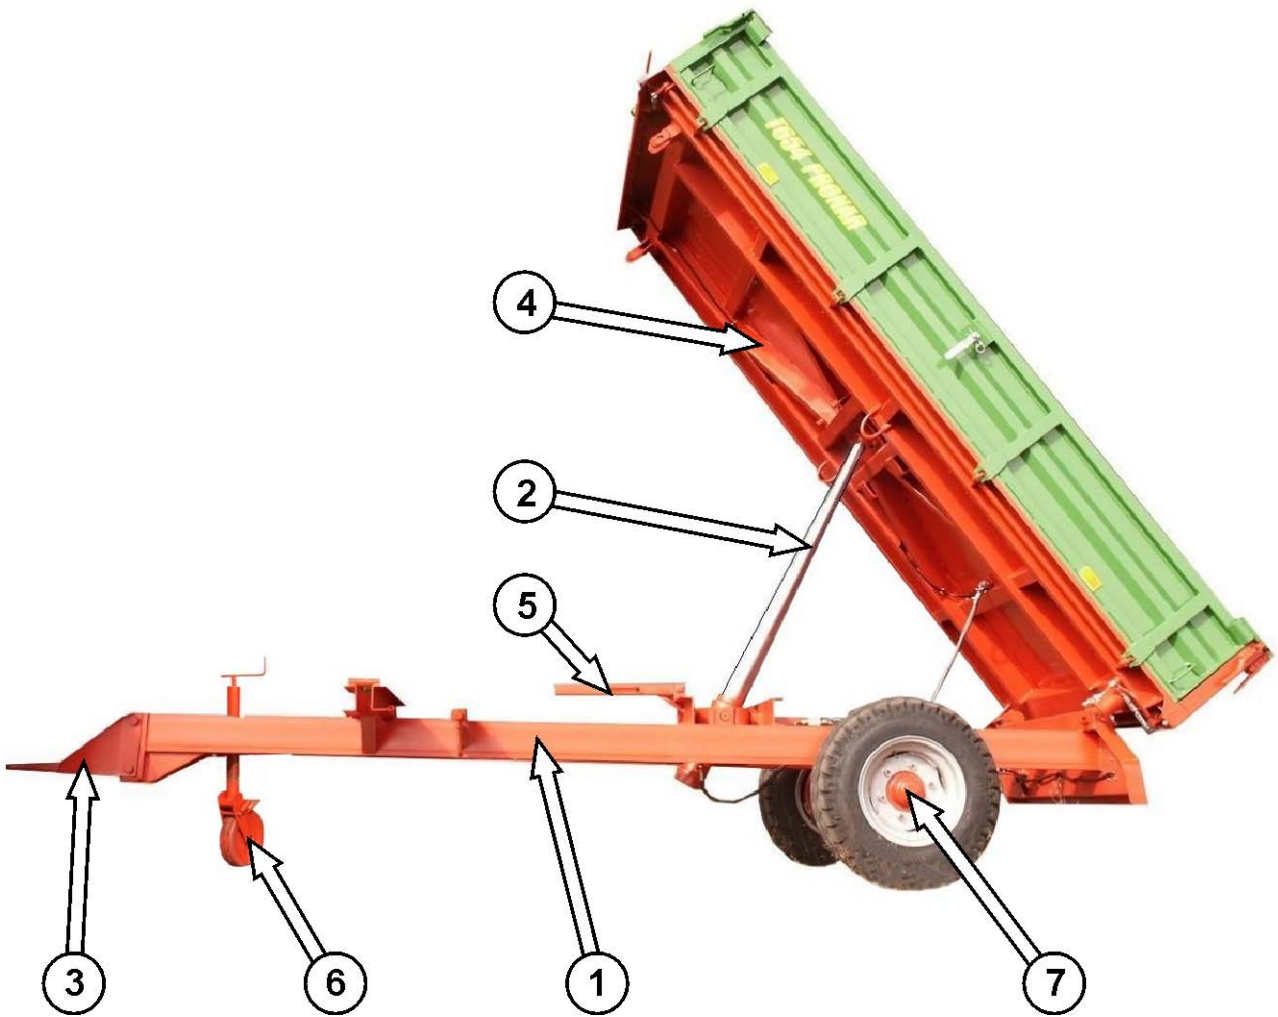

Fig. 2. Chassis and upper frame
- If the trailer is the last vehicle in the group, a slow-moving vehicle sign should be placed on the trailer's rear load box wall – (figure 2).